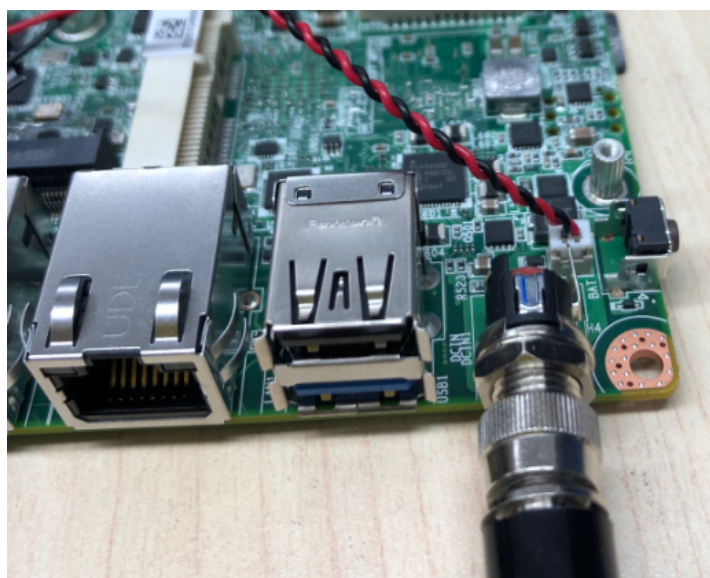

Figure 2.26
- When switching on the power, the green LED indicator (location LED_PWR) on BOT side of the board will light up to indicate that the board has booted up normally. (Figure 2.26)